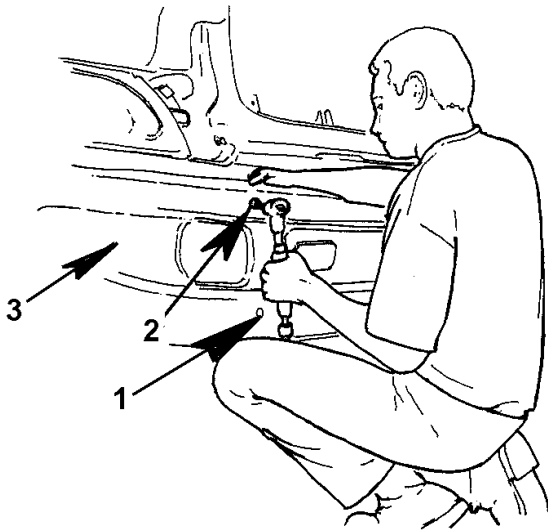

Figure 11 Bumper Removal
1. Beginning at the upper two bolts, loosen bolts (Figure 11, Item 2).